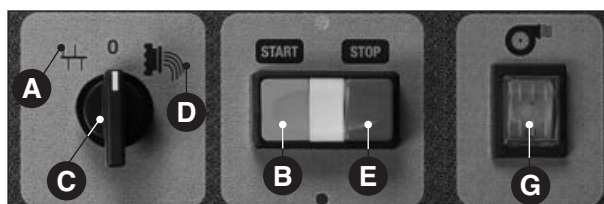

Fig. 11 - TR 75/E Panel
If the product is quite wet and tends to be sticky, it is best to dry the surface in any case, by switching on the fan (**Fig. 11 G**, only 75/E).
- stop the machine by switching the selector to the “0” position (**Fig. 11 C**) and then turn it on the kneading position **HH** (**Fig. 11 A**) for 10-15 seconds so that the pressure on the drawplate, caused by the product itself, is eliminated;
- switch the selector to “0” (**Fig. 11 C**) or push the Stop button (**Fig. 11 E**);
- In the “0” position (**Fig. 11 C**) all the elements of the machine have to stop; for model TR 75/E, in the “drawplate position” (**Fig. 11 D**) the mixer rotates in a clockwise direction and the Archimedean screw must rotate in the same direction (check through the slots in the lid); for model TR 70, on the other hand, in the “drawplate position” (**Fig. 11 D**) the mixer rotates in a counter-clockwise direction and the Archimedean screw must rotate in the opposite direction; in the “knead” position (**Fig. 11 A**) the parts must rotate in the opposite direction.